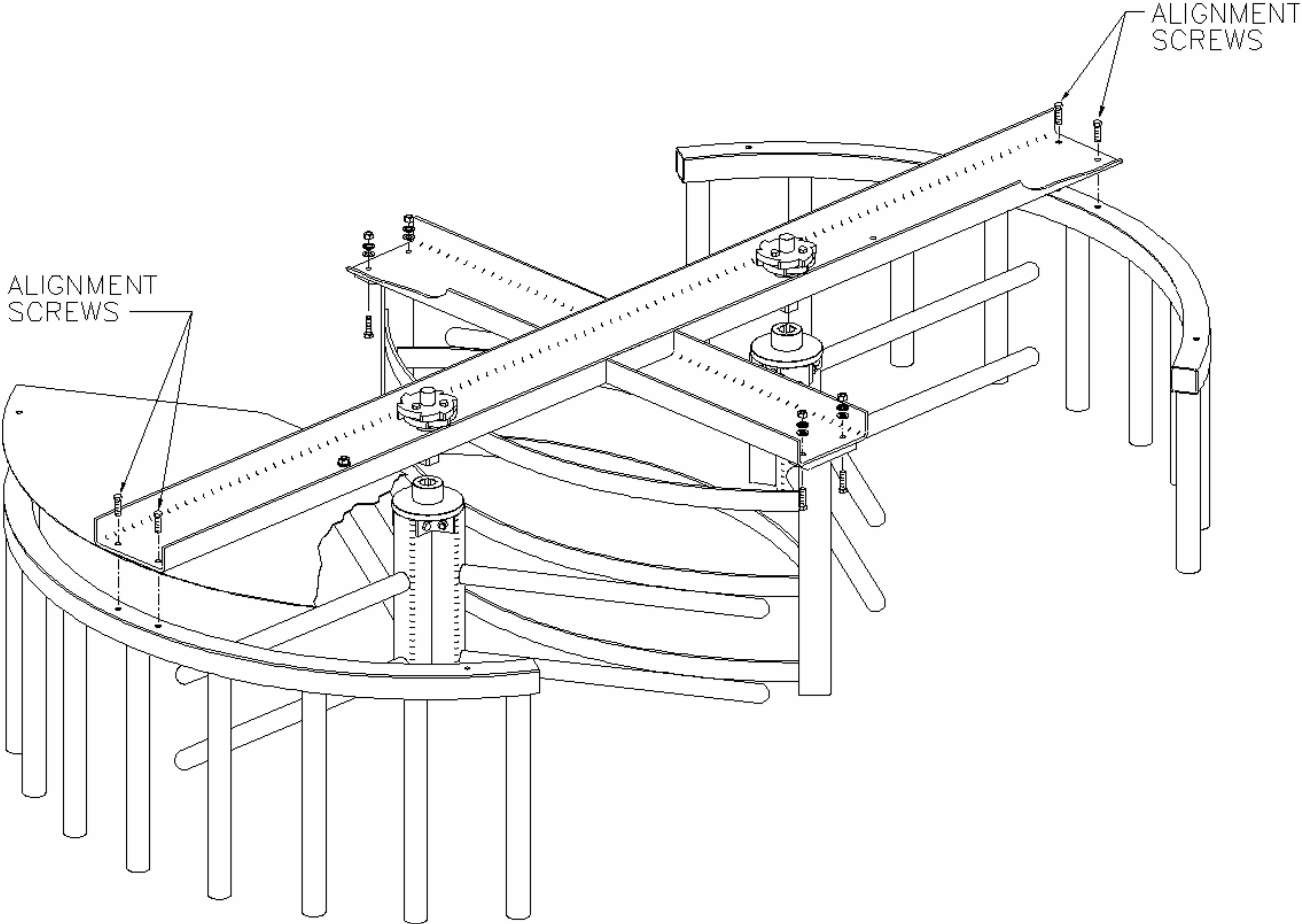

Figure 17
- 8. Remove cover from channel. Place channel on top of left side shield assembly, upper flanges and right side shield assembly. Align mechanism shaft (extends from channel) and work down easily into the upper flanges. See Figure 17. When seated, channel will rest on shield assemblies (right and left side), rotor assemblies, and middle barrier posts. Insert two screws 3/8" – 16 X 1" through the channel to middle holes of shield tubing for right side and left side shield assemblies. Do not secure.